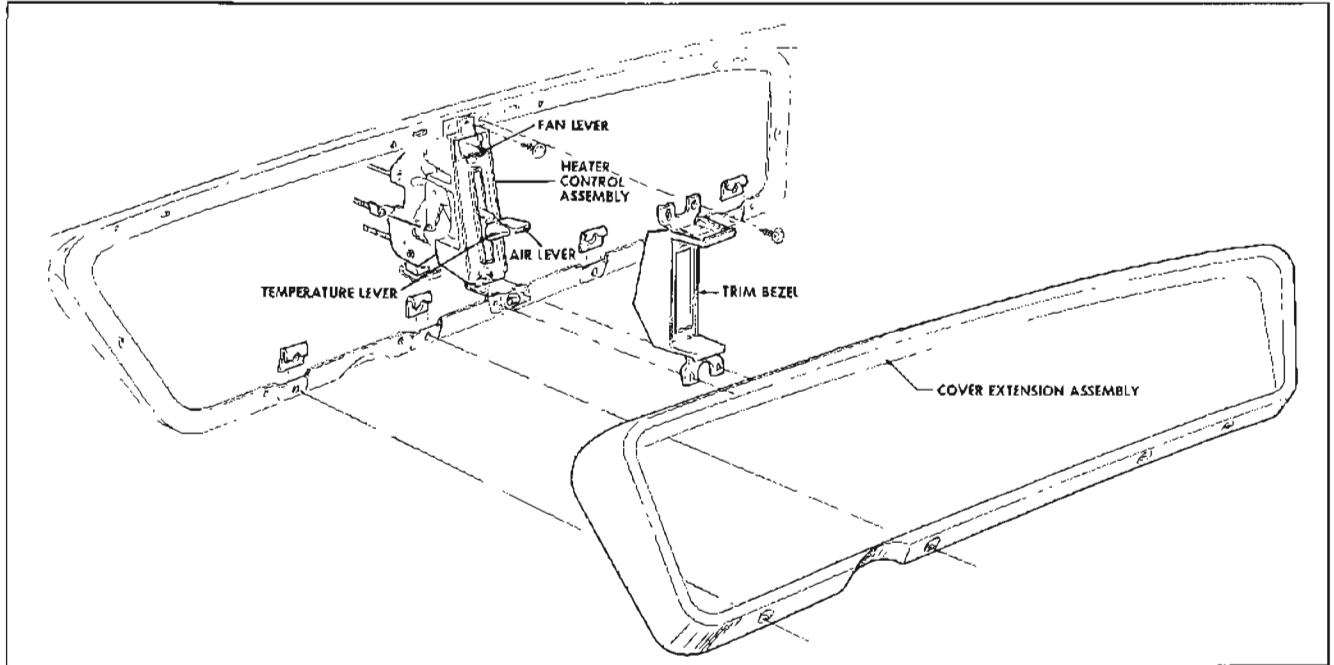

Figure 11-15—Heater Control Assembly Removal
3. Heater Control Assembly—The heater control assembly (see Figures 11-15 and 11-16) consists of three controls, namely the temperature control lever, air control lever, and FAN lever. The temperature control lever is connected by a control wire to the temperature door on the heater assembly, and regulates the ratio
1. Remove five screws from instrument panel nose trim pad and lift off nose trim pad (see Figure 11-15).